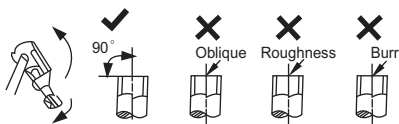

Fig. 26 — Cut the pipe
- Cut the pipe, with a pipe cutter, at 90 degrees (see Fig. 26).